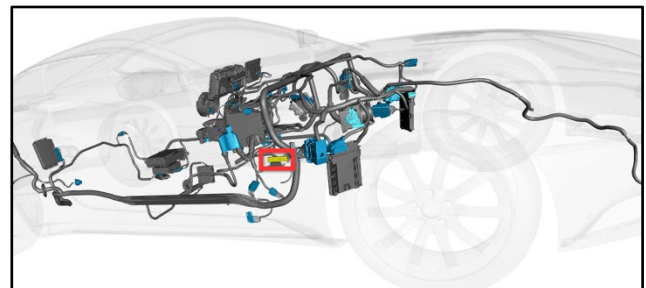

Figure 15
5. **Powertrain CAN** – This header is in the right side footwell (refer to Figure 15).